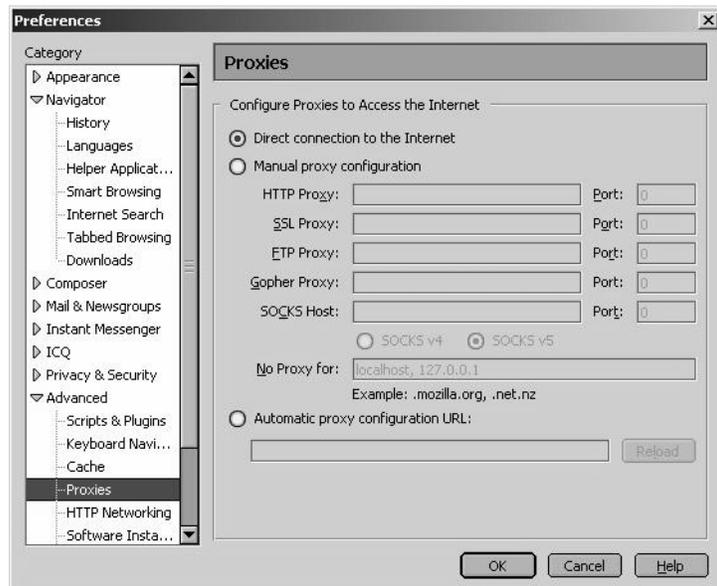

Figure 124: Accessing proxy settings: Netscape
3. Select **Edit** → *Preferences* to access the Preferences window shown in Figure 124.